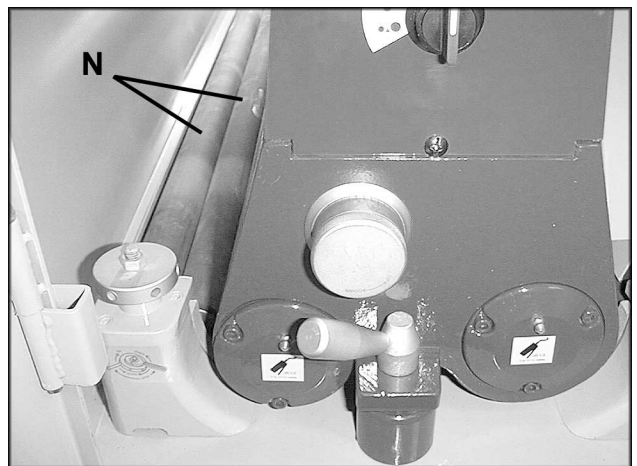

FIGURE 18
The infeed and outfeed pressure bars are pre-set at the factory. When properly adjusted, every point on the workpiece is sanded equally. The outfeed pressure bars (N) are shown in Fig. 18.